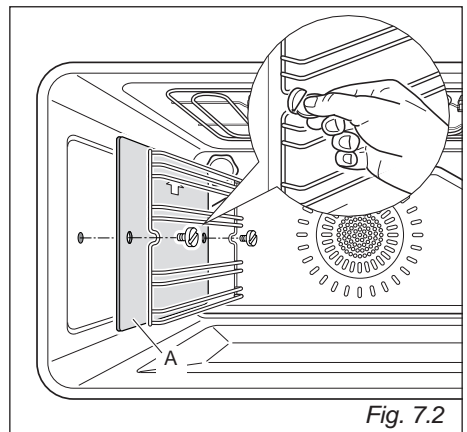

Fig. 7.2
- Assemble the wire racks to the oven walls using the 2 screws (fig. 7.2).
In the models with catalytic panels supplied: interpose the catalytic panels "A" with the arrow up (fig. 7.2).
- Fit the side runner frames into the holes on the side walls inside the oven. (fig. 7.2).